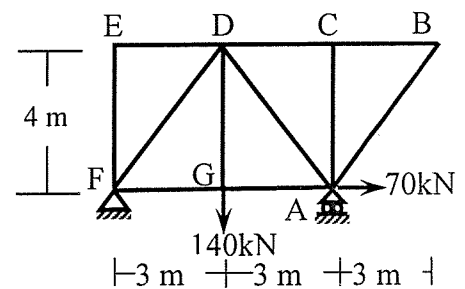

Fig.4
4. Calculate the horizontal deflection of joint **B** of the truss shown in **Fig.4** by the Unit Load Method [EA=Constant]. [10]